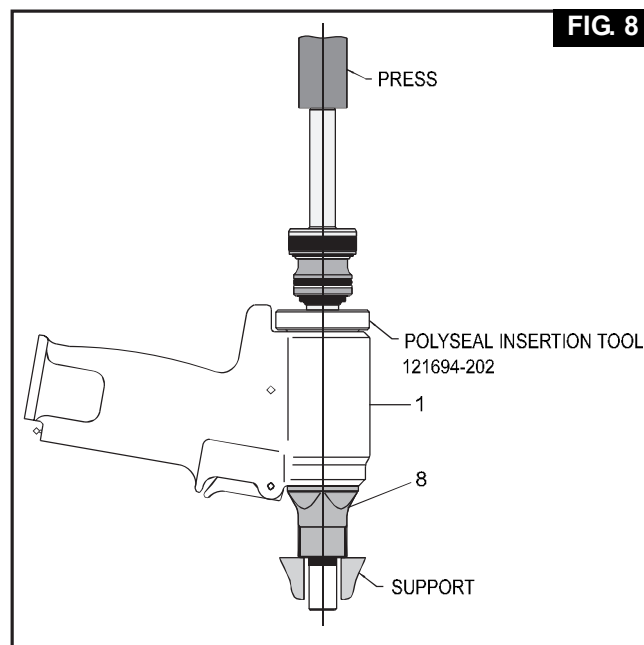

FIG. 8
3. Thread POLYSEAL Insertion/removal Tool (121694-202) into head. (Fig 8.)
7. Install assembled components in gently from rear of tool using a press as shown in (Fig. 8).
8. Remove Piston Assembly Tool (123111-11, 123111-2 or 123111-4) and POLYSEAL Insertion / removal (121694-202) Tool. (**Note:** Adapter (66) must be reinstalled on E & EV models after use with Assembly tool 123111-11)